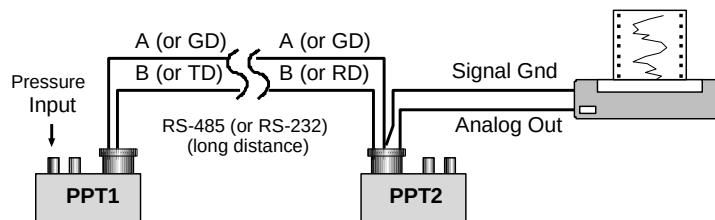

**Figure 4.12—Sensing Remote Analog Pressure**
**First**, the internal analog-to-digital converter integration time may be controlled over a range of 1 sample every 12 seconds up to 120 samples per second. This is controlled using the 'Integration' (I=) command. The integration time is used to control the A/D integration cycle that allow noisy pressure inputs to be filtered, or averaged, over a selected period of time. See Figures 4.12 and 4.13. The integration time can be set within a range of 1 to 120 samples/sec using the I=Rn form or a range of 100msec to 12 sec/sample using the I=Mn form. The values for 'n' range from 1 to 120 for both the rate (Rn) form and the millisecond (Mn) form.
Two PPTs can be used to sense pressure at one location and drive the analog pressure output at a remote location without a host processor. For example, a strip chart recorder or other analog input device, is being used to monitor a pressure point in a remote location. If the analog signal is run between locations, it will be subjected to electrical noise, line interference and connector electrical losses. The pressure signal would require shielding, single point ground connections and line filtering. A solution to eliminate the effects of line losses and noise sources would be to transmit the pressure information digitally to the strip chart recorder using two PPTs (see Figure 4.12).